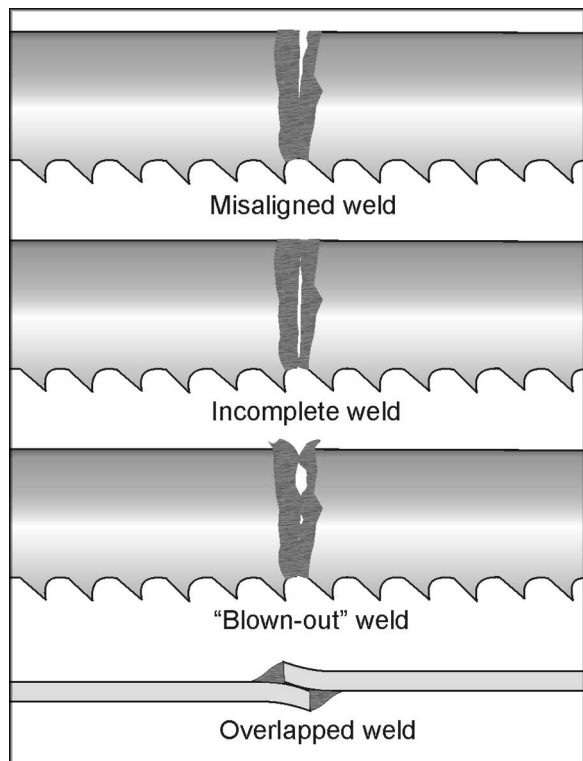

Figure 20
12. Remove the blade from the clamps, and carefully inspect it. The spacing of the teeth should be uniform and the weld should be located in the center of the gullet. Misalignment is easily noted at this time from the weld appearance. See Figure 20 for examples of incorrect welds.